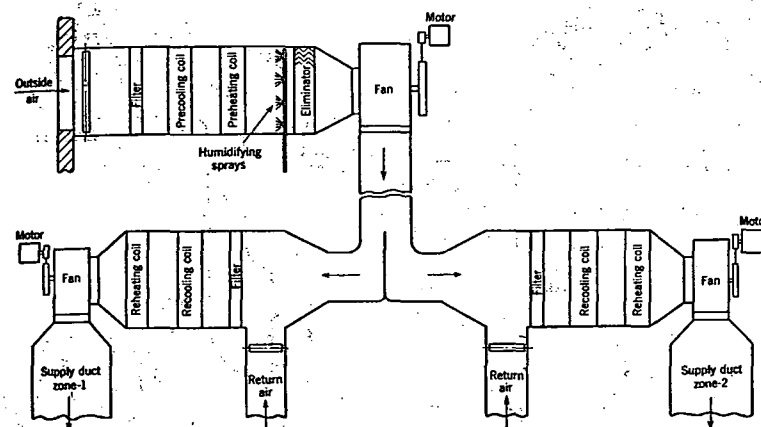

FIG. 4. CENTRAL SYSTEM WITH RECIRCULATING CONDITIONERS
4. Central outside air conditioning system with zone recirculating conditioners (Fig. 4). This is used on installations having large zones requiring independent control to meet local requirements for office and apartment buildings, hotels, etc.